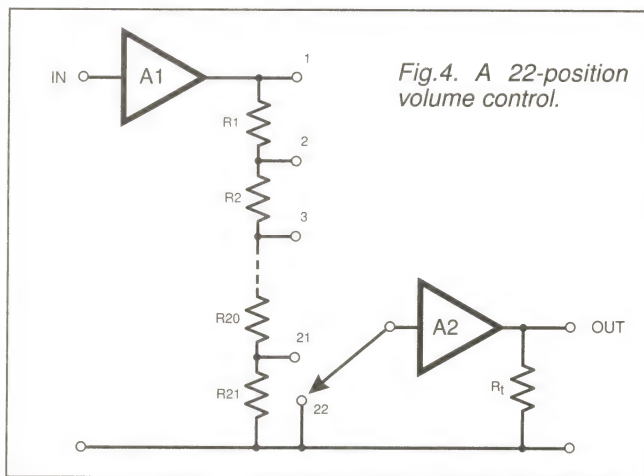

Fig.4. A 22-position volume control.
To design the volume control we will use the simplified situation shown in Fig.4. The volume control is a potential divider placed between two amplifiers, it therefore attenuates the output of the first amplifier, A_1 , before passing it to A_2 .
Referring to Fig.4, the switch S1 has 22 positions so there are 21 resistors. The first position (1) bypasses the divider and connects the amplifiers directly together. This is full volume (0dB attenuation). The 22nd position connects the input of the second amplifier to ground so no signal will be output (infinite attenuation): we could label this position "Mute". This leaves 20 remaining positions for different volume levels.
Note that S_n is the equivalent of R_A in Fig.4, if we take the output from just below R_n . By taking the limit in the above equation, in which $n \rightarrow \infty$, we get the value of R_t (the total resistance of all the resistors).
This is useful because it allows us to calculate the value of the first resistor in the volume control (R_1 in Fig.4) once we have decided on the attenuation step and the total resistance value we want to use. From there we can use the fact that each resistor in the chain can be found by multiplying the previous value by k .